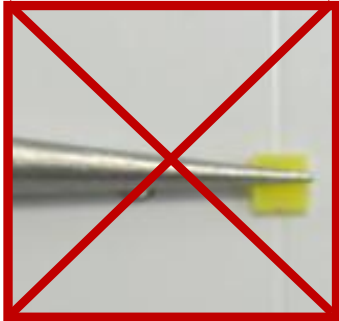

Figure 3a. Incorrect handling of WICOP LEDs
- (1) During processing, mechanical stress on the surface should be minimized as much as possible.
- (2) Sharp objects of all types should not be used to pierce the sealing compound.
- (3) At no times should metal tweezers be used to handle the LEDs (Figure 3a).